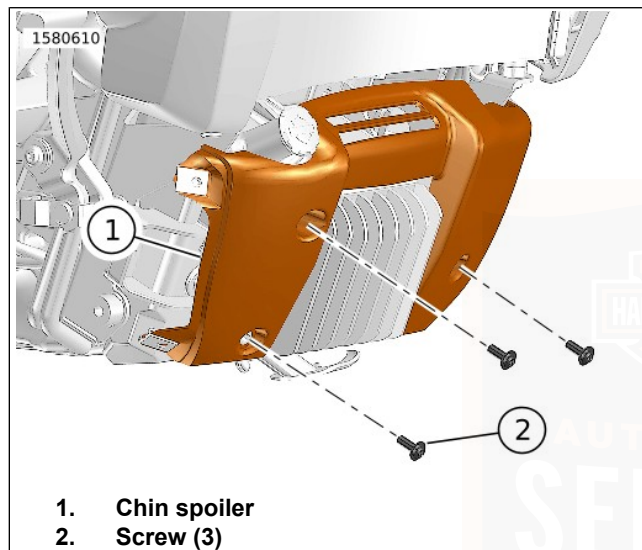

Figure 66. Chin Spoiler
3. See Figure 66. Remove screws (2).
4. Remove chin spoiler (1).
1. See Figure 66. Install chin spoiler (1).
2. Install screws (2). Tighten.